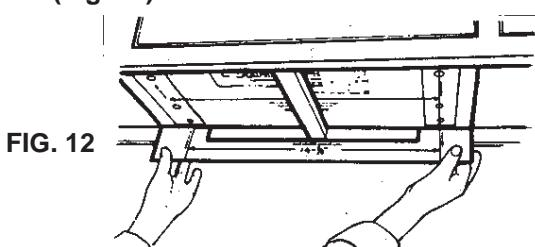

FIG. 12
- Position Template 2. (The cut line along the front edge of template must be placed against the back of the front rail. (Fig. 12)